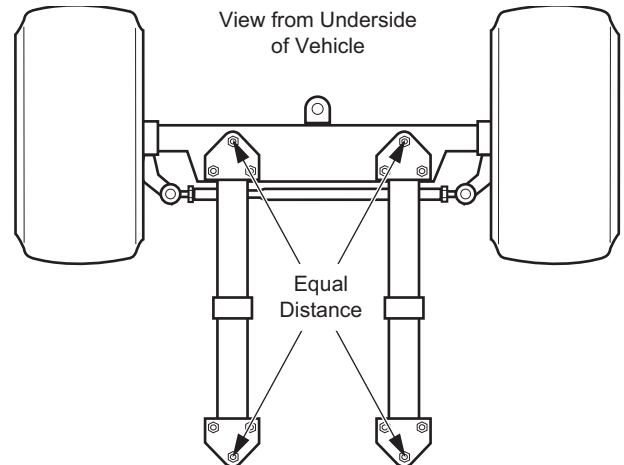

Figure 7 Front Axle Alignment
When front springs are replaced, the front axle must be aligned to the frame. The distance from the center bolt at rear of left spring to the center bolt at front of right spring must be the same as the distance from the center bolt at rear of right spring to the center bolt at front of left spring (Ref. Figure 7). Tighten the spring hardware (21, 19, 27) first and rack and pinion unit hardware (15) next to 35 - 50 ft. lbs. (50 - 70 Nm) torque.